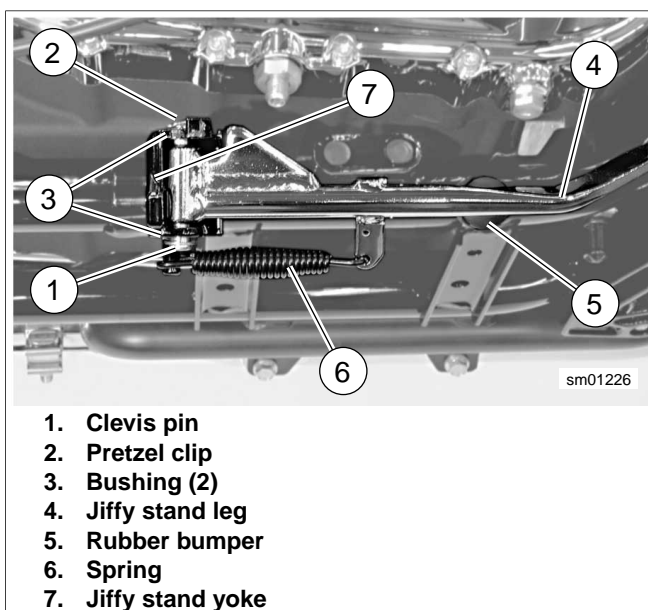

Figure 2-175. Jiffy Stand (Retracted Position) (Typical)
See Figure 2-175. The vehicle is equipped with a jiffy stand (or side stand) that locks when placed in the full forward position (down) with the full weight of the vehicle resting on it.
2. See Figure 2-175. Remove rubber bumper (5) from frame to permit further retraction of jiffy stand leg (4). Additional spring tension relief allows for easier spring removal.